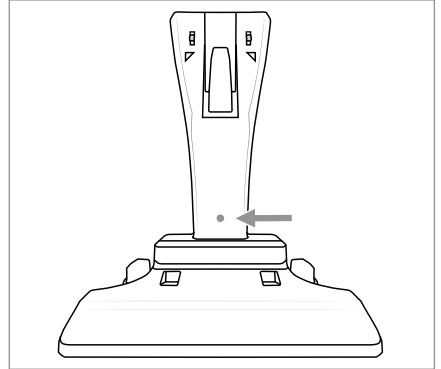

Fig. 1
- 1) Use the opening in the appliance cradle **22** to draw the hole on the wall (Fig. 1).
- 4) Insert the screw **26** through the opening in the appliance cradle **22** (Fig. 1) and screw it into the wall plug **27** with a Phillips screwdriver.